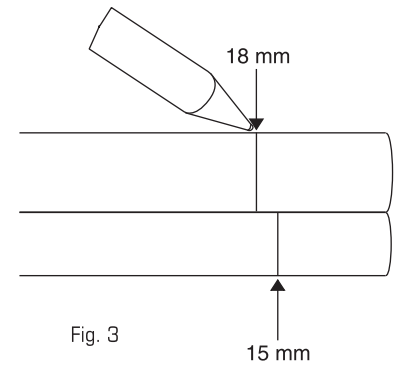

Fig. 3
- a. **Lay** both ends of the RED tubes on the new pressure regulator assembly in this kit on the top of the diagram (Fig. 3) and **mark** them at the arrows.
- b. **Lay** the RED tube attached to the installed **eSpring** faucet on the top of the diagram (Fig. 3) and **mark** them at the arrows.
- c. **Lay** the BLUE tube attached to the $\frac{3}{8}$ " x $\frac{1}{4}$ " x $\frac{5}{16}$ " Large T Connector with BLUE tube attached, h, (Fig. 1) on the bottom of the diagram (Fig. 3) and **mark** them at the arrows.
- d. Use a ruler or **lay** the tube from the cold water supply on the top of the diagram and **mark** a line at $\frac{3}{4}$ " (18mm) or at the arrow (Fig. 3).